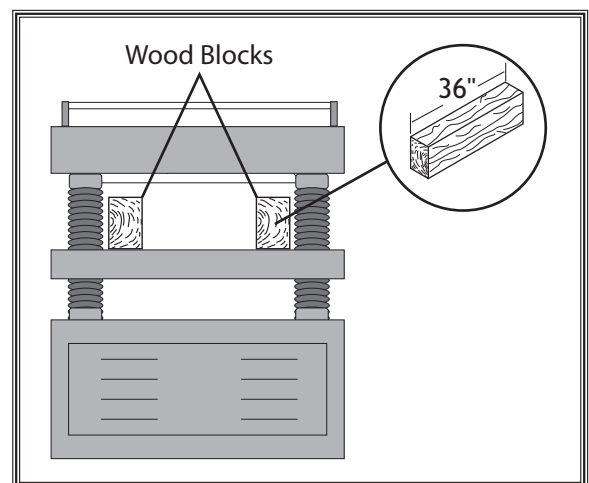

Figure 53. Wood blocks properly positioned on the planer table.
5. Place wood blocks along sides of table, as illustrated in **Figure 53**.